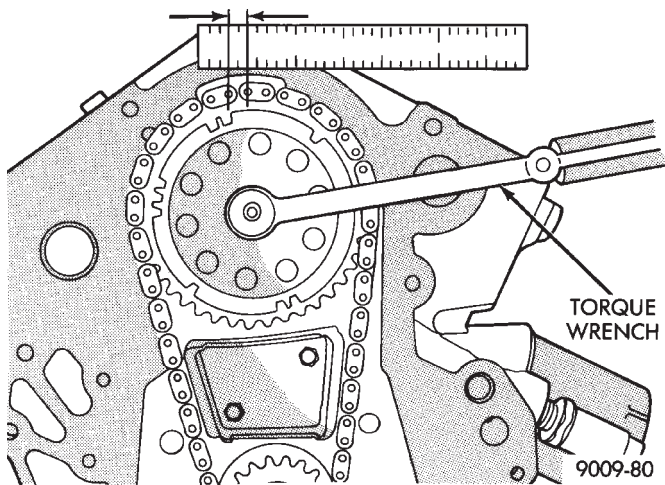

Fig. 4 Measuring Timing Chain Wear and Stretch
(3) Holding a scale even, with dimension reading as shown (Fig. 4), along edge of chain links. Apply torque in the reverse direction to 41 N•m (30 ft. lbs.) with cylinder heads installed, or 20 N•m (15 ft. lbs.) with cylinder heads removed. Check amount of chain movement (Fig. 4).
(4) Install a new timing chain, if its movement exceeds 3.175mm (1/8 inch) (Fig. 4).
(5) If chain is not satisfactory, remove camshaft sprocket attaching bolt, and remove timing chain with camshaft sprocket.
(6) Using a suitable puller remove the crankshaft pulley. Be careful not to damage the crankshaft surface.